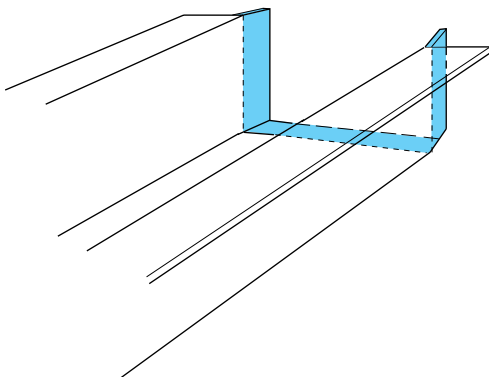

Fig. 1-24 — Step Tabs Inward on the New Rail Section
4. Step the tabs inward to allow the service rail to fit inside the original rail (Fig. 1-24).